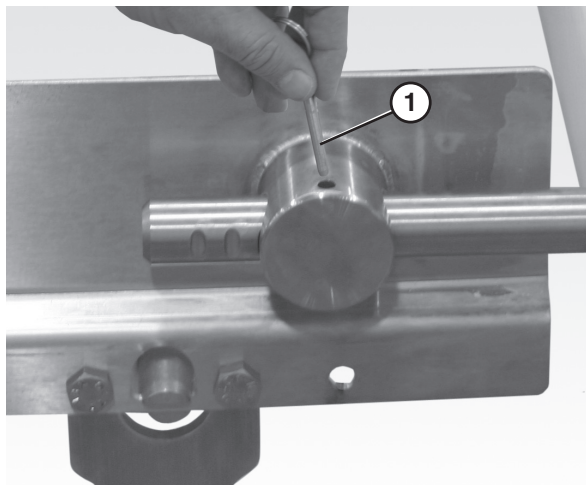

Figure 47
9. Insert the pull pins (Figure 47, item 1) on the tension end of the conveyor.